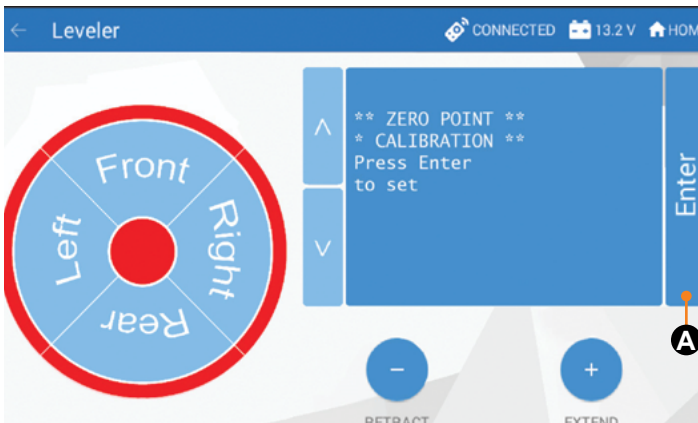

Fig.52
5. The touch panel will present options for further leveling of the trailer if needed. The screen will also state "ZERO POINT CALIBRATION - Press Enter to Set" (**Fig.52**).